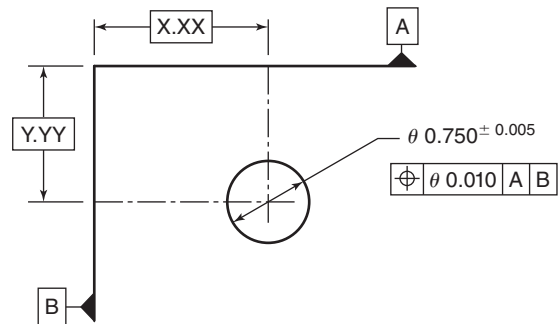

Figure 4-49 What is the position tolerance if this hole is drilled to a 0.7467-in. diameter?
14. The 0.750-in. hole in Fig. 4-49 has a size tolerance of ± 0.005 in. It has a position tolerance of 0.010 in. The actual drilled hole is measured at 0.7467 in. What is its position tolerance after considering the drilled size?